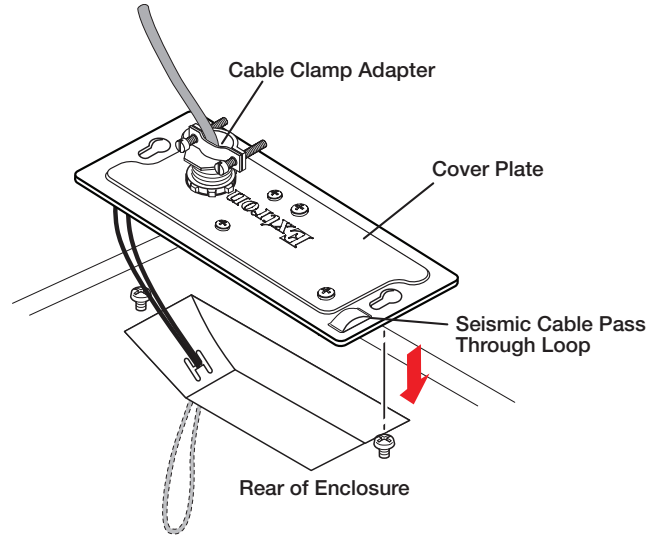

Figure 31. Routing the Cables Without a Conduit
- b. Insert the wires through the clamp and cover plate, as shown in figure 31.